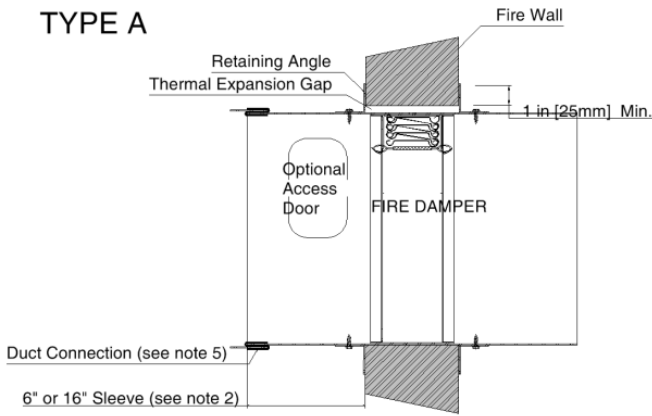
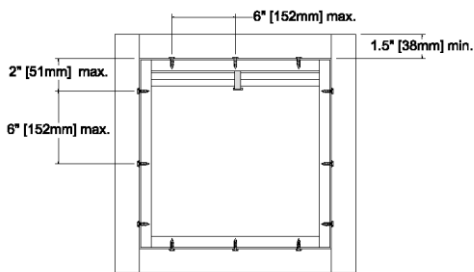

Figure 1
Figure 5
**4. SECURING DAMPER IN OPENING (2 ANGLE METHOD):** In this method 2 sets of angles are used to secure the damper in the opening, one on each side of the partition (See Figures 1 through 5). Two Angle Method is approved for 3 hour. installations and any maximum size multi-section UL approved damper. Angles shall be a minimum of 1 1/2" x 1 1/2" (38mm x 38mm) x 16 Ga. The angles are to overlap the partition a minimum of 1" (25mm). These angles may be of a unit type construction and may or may not be fastened to each other at the corners. Angles are to be fastened to the sleeve on 6" centers with #10 (M5mm) sheet metal screws, 3/16" (5mm) steel pop rivets, 1/2" (13mm) tack welds, or 1/4" (6mm) diameter nut and bolts and not more than 2" (51mm) from each end with a minimum of two connections per side/leg. When the duct work terminates at the damper or installation prohibits angles from turning out/away from the wall, the retaining angle shall be reversed (leg turned into the opening) providing the size of the opening is increased by an amount equal to twice the combined thickness of the angle and the height of the screw or bolt head to maintain expansion clearances. See Note 1A for information on clearances. See Fig. 5 for detailed drawings of installations. Retaining angles should not be fastened to the wall material. The angles should only sandwich the partition and allow for damper / sleeve expansion during periods of intense heat.